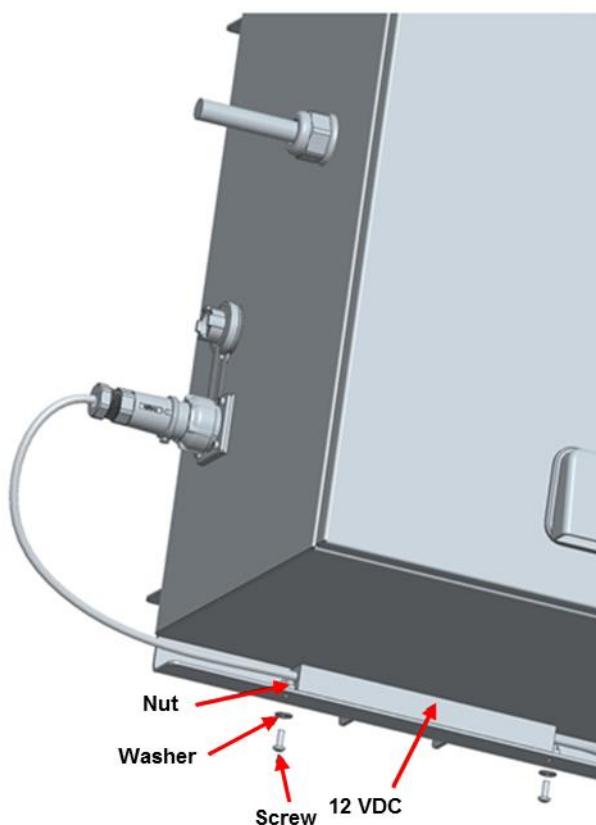

Figure 27: Attaching AC/DC Power Adapter
1. The external power adapter can be mounted to the pole mount accessory as shown in Figure 27, or mounted elsewhere on the case using its mounting holes. The DC cable connects to the DC power connector on the left side of the enclosure.